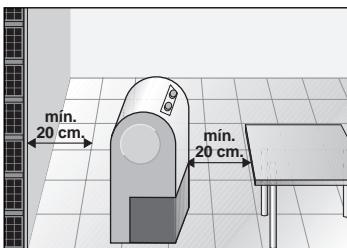

Fig. 4
- To ensure correct appliance operation, maintain minimum distances of 20 cm to adjacent objects. see fig 4.